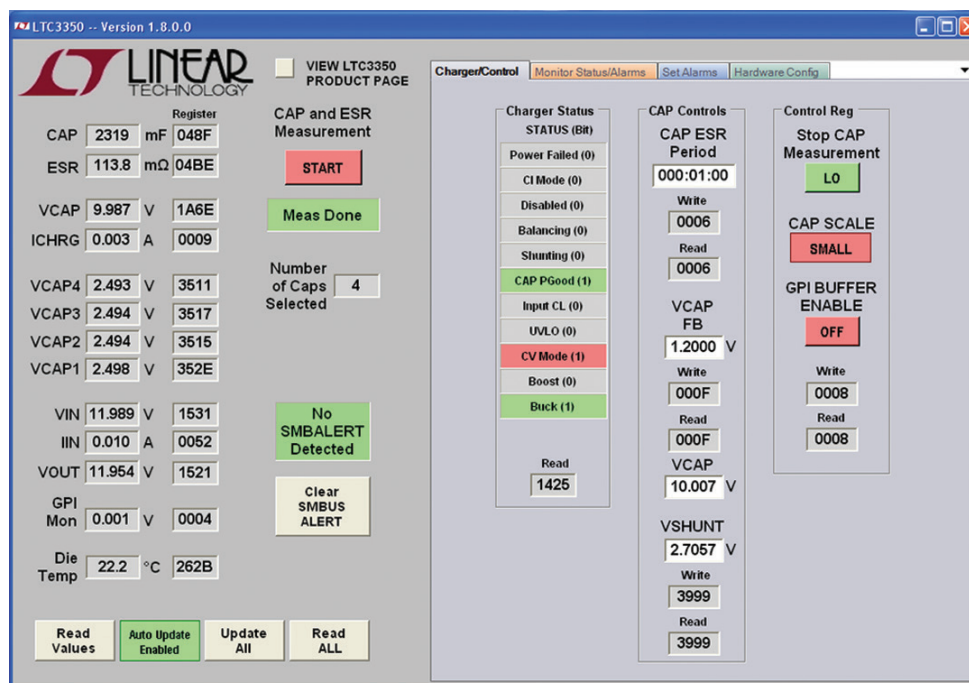

Figure 5. LTC3350 Control Window
6. Start the Linear Technology QuikEval program. This program should automatically detect the presence of the LTC3350 demo board (DC1937A) and activate the appropriate GUI, as seen in Figure 5.
The LTC3350 program provides the ability to measure and monitor the system voltages and currents plus the health of the supercapacitors. It also allows the user to set up alarms to report on specific events such as power fail or cap measurement done. Refer to Figure 5 for an illustration of the LTC3350 control window.
The Charger Control tab contains the indicators and controls for the capacitor charger and monitor plus the GPI buffer enable as shown in Figure 5.